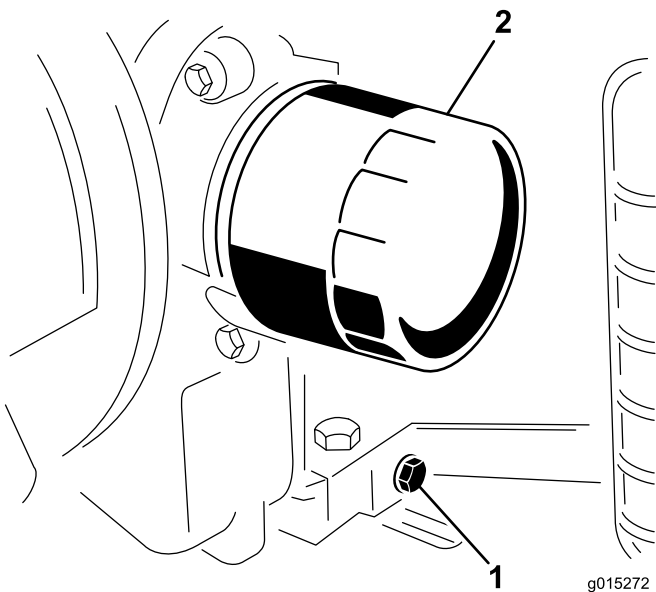

Figure 20
4. Place a pan below the oil drain. Remove the oil drain plug to allow the oil to drain (Figure 20).